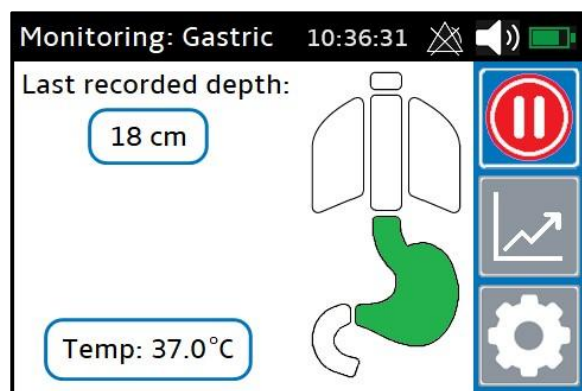

Figure 18: Gastric Monitoring Mode
Monitoring mode (Figure 18) is reached by following the above guided insertion procedure or by pressing the "Monitor Feeding Tube" option from the Placement Mode Selection screen (Figure 4).
- **Depth display/update.** The most recently confirmed feeding tube depth is shown at the top of the Monitoring screen (Figure 18); the user can update this depth and/or switch between Gastric vs Post-Pyloric Monitoring mode by following the instructions on the ensuing screen.
- **Gastrointestinal temperature monitoring.** The current temperature is displayed in the Monitoring screen (Figure 18) and historical temperature plots are available in the Graph screen.
The monitor processes data from several temperature sensors located along the feeding tube to continuously update the temperature value displayed on the Monitoring screen (Figure 18) and